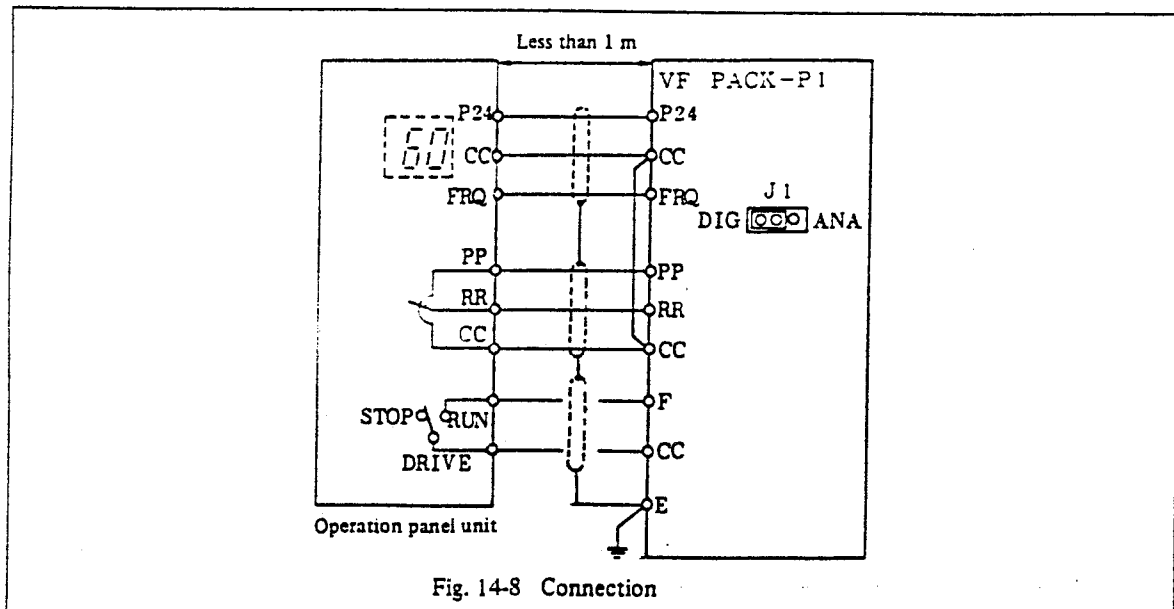

Fig. 14-8 Connection
- (2) Connection is shown in Fig. 14-8.